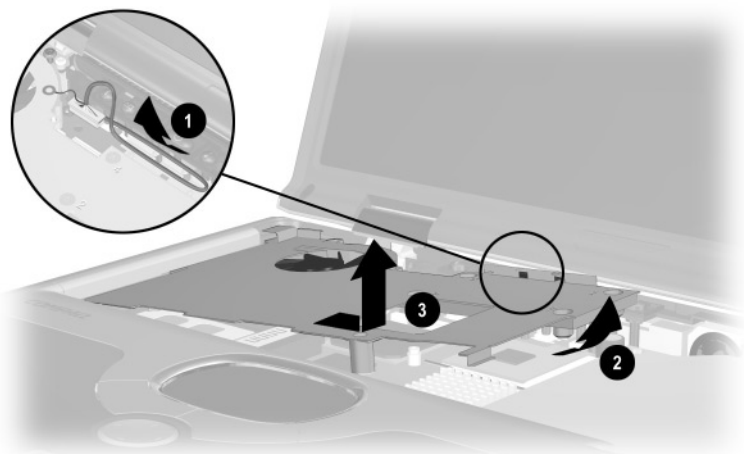

Figure 5-21. Removing the Heat Spreader
6. Remove the display video cable ❶ from the routing channel in the heat spreader (Figure 5-21).
7. Lift the right side of the heat spreader until it rests at an angle ❷.
8. Slide the heat spreader to the right at an angle ❸ and remove the heat spreader from the base enclosure.